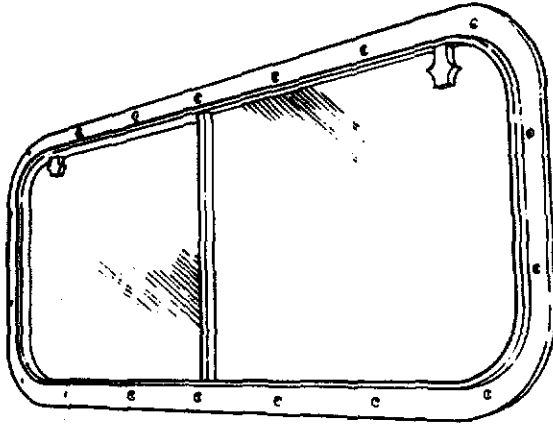

Figure 1-17 Rear Window
**101. Rear window (Fig. 1-17)**